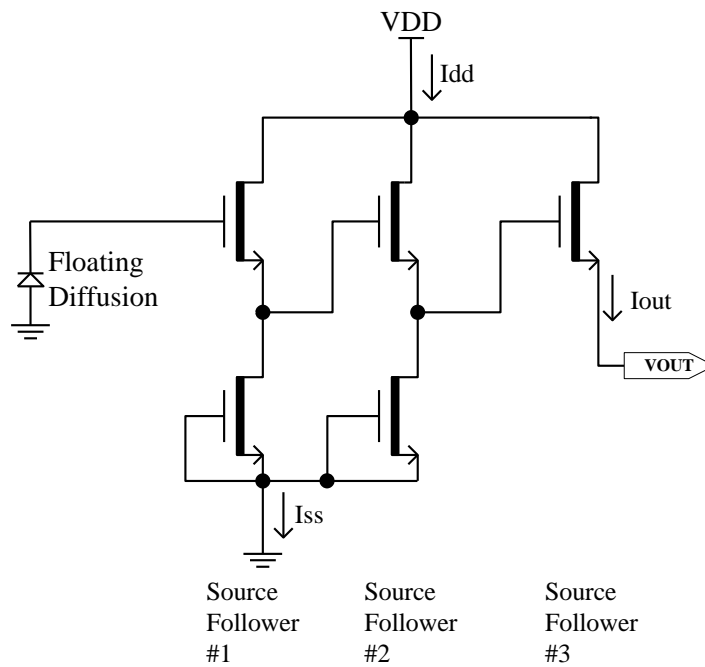

Figure 17: Output Amplifier
- Each output. See Figure 17: Output Amplifier. Note that the current bias affects the amplifier bandwidth.
3. One output, unloaded. The maximum DC current is for one output unloaded and is shown as Iss in Figure 17. This is the maximum current that the first two stages of one output amplifier will draw. This value is with Vout disconnected.